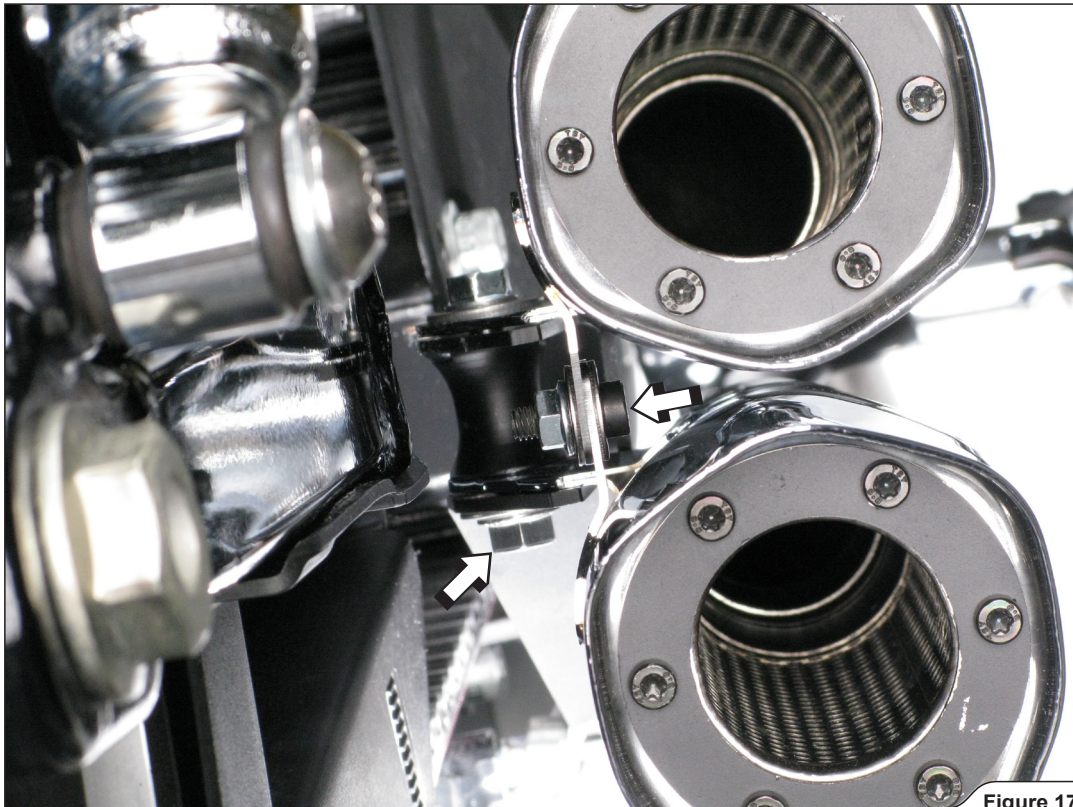

Figure 17
- Slide the upper muffler onto the rear header. Align the mufflers and hand tighten the mufflers' connection bolt and bracket bolt (Figure 17). Use bolts, washers and nuts from installation kit.